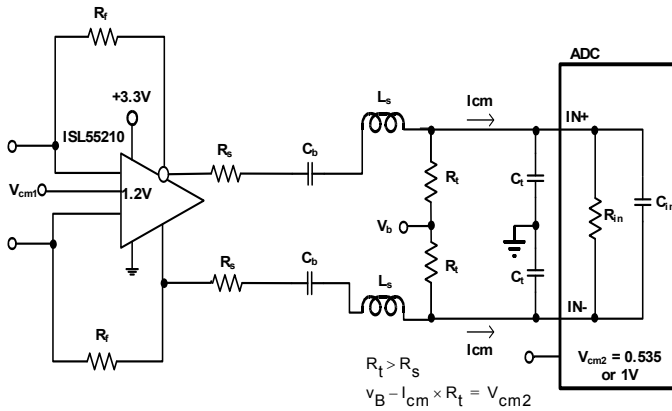

FIGURE 34. AC COUPLED, BROADBAND RLC INTERSTAGE FILTER DESIGN
2. AC coupled, higher frequency range interstage filter design. This design replaces the  $R_t$  resistors in Figure 34 with large valued inductors and implements the filter just using shunt resistors at the end of the RLC filter (here, that is just the ADC internal differential  $R_{in}$ ). In this case, the ADC  $V_{CM}$  can be tied to the centerpoint of the bias path inductors (very much like a Bias-T) to provide the common mode voltage and current to